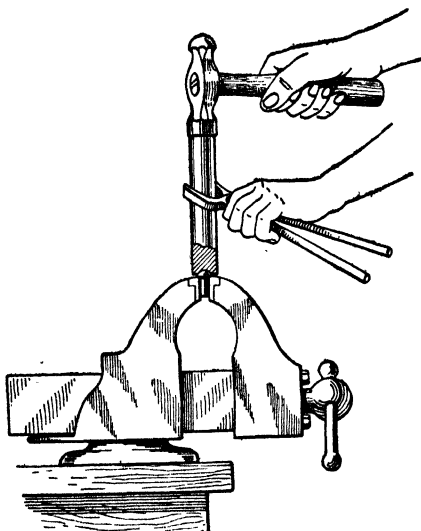

Fig. 47. Easily-Made Type of Rivet Set
**Hot-Riveting Metals.** For hot-riveting work there are two general classes of rivets used: countersunk rivets and flush rivets, Fig. 47. Flush rivets are used to support the spring hangers to the frame and in riveting cross-members to the frame, etc. Countersunk rivets are used cold in brake lining facing and clutch facing, as previously described, and in joining pieces where clearance is a factor, as in riveting the ring gear to the differential case flange.
the head of the rivet. Fasten one of the rivets in a vise with the shank within the vise and the under side of the head flat against the top of the vise jaws. Now heat one end of the bar to a white heat and drive the heated end against the round rivet head, thus making a depression in the end of the bar, Fig. 47. It will probably be necessary to reheat the bar two or three times, using a new rivet each time, to get the depression deep enough. This depression should be of such depth as to take in the entire head of the rivet. Another method is to drill the depression into the end of the bar, thus giving a V-shaped depression. Such a depression will serve nearly as well as the round one for the work at hand.